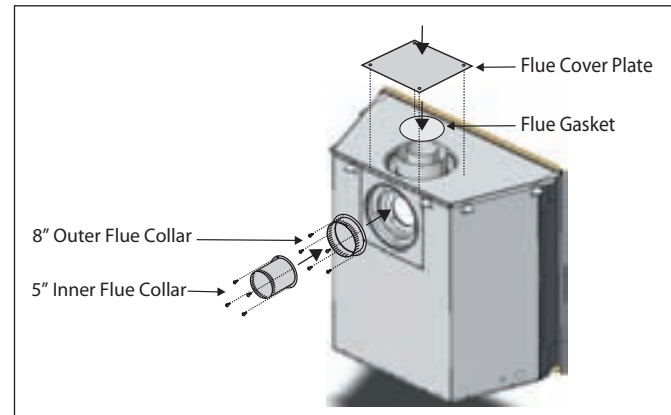

Figure 8a. Flue cover and collar installation, **Rear Vented** fireplace.
3. Install the (removed) Rear flue cover and gasket material, to the Top vent outlet. Fasten the cover with included hardware, as illustrated **Figure 8a**.
4. Install the (5" and 8") collars to the rear vent outlet using the included hardware, as illustrated **Figure 8a**.